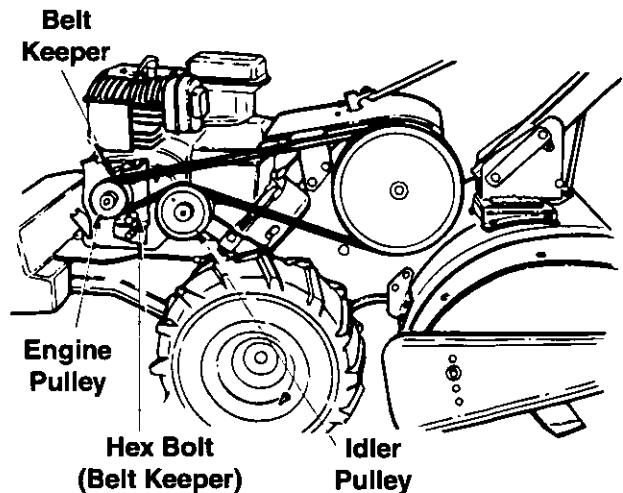

Figure 20
3. Remove the hex bolt (belt keeper) located beneath the engine pulley. See Figure 20.
**NOTE:** Upon reassembly, make certain the belt is routed over the idler pulley and inside of belt keepers by engine pulley. See Figure 20.